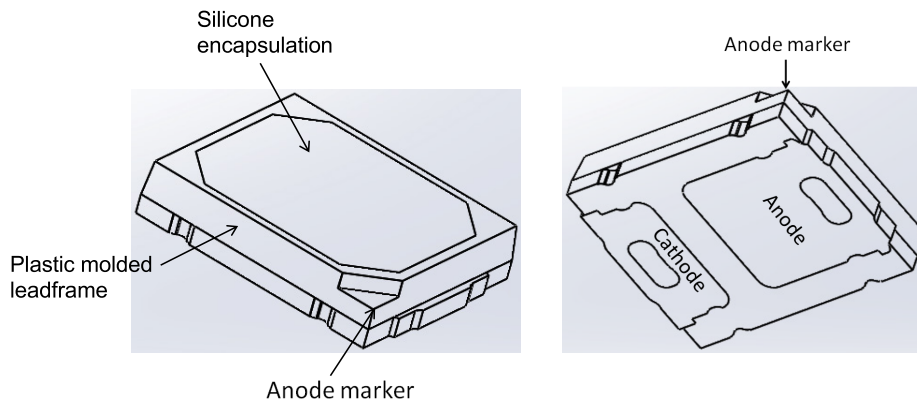

Figure 1. Package rendering of the **LUXEON 2835 Color Line**.
The LUXEON 2835 Color Line emitter (see Figure 1) is a plastic molded, no-lead, surface mount package consisting of an anode and a cathode. A chamfer on the corner of the package marks the anode side of the emitter package. Majority of the heat is being dissipated through the larger pad (anode). For the LUXEON 2835 Color package, without the option of a transient voltage suppressor (TVS) chip to protect the emitter against electrostatic discharges (ESD), appropriate precautions should, therefore, be taken when handling such device (see Section 5.5).
2. The nozzle outer diameter or size should also not be smaller than the silicone encapsulant surface (Figure 1 and Figure 6) otherwise this may allow the nozzle tip to be in full contact with the encapsulant area and may cause damage to the surface or cause pick-up/release issues. Note that the encapsulant is typically recessed below the white plastic housing and assuming a nozzle tip that is planar, the nozzle tip is able to rest on the edge of the white plastic housing and not in full contact with the encapsulant.